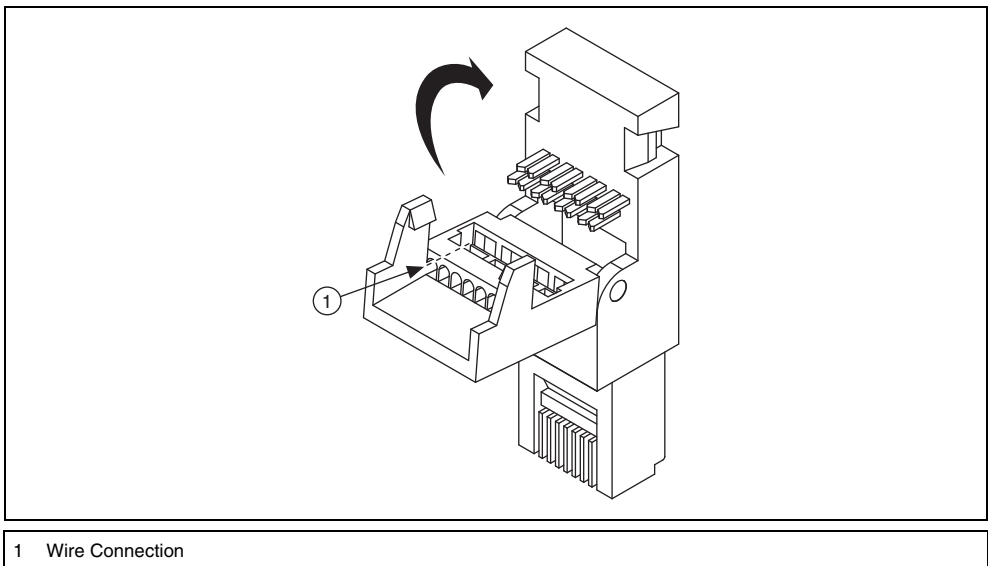

Figure 9. No-Crimp Ethernet Plug
4. Finish by snapping the lid shut as shown in Figure 9.